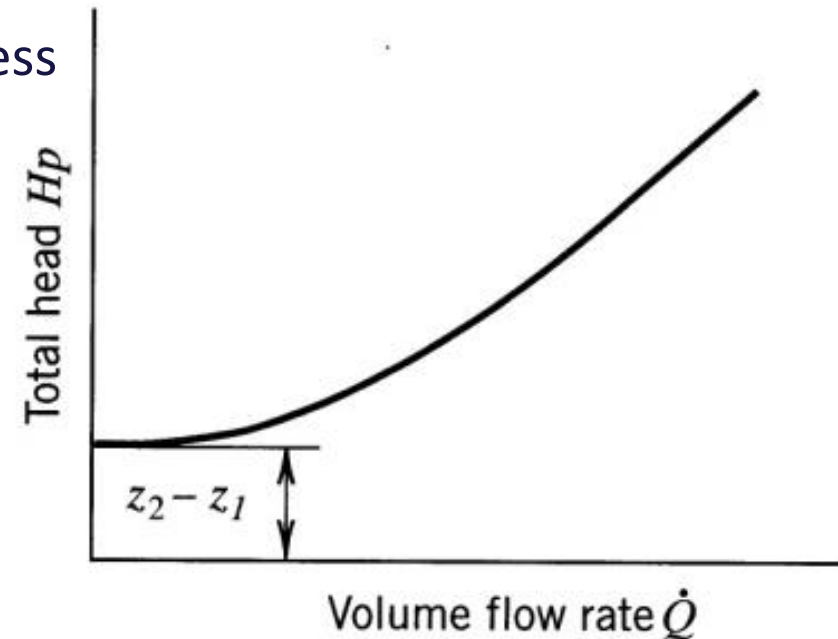

Figure 6-4
- The behavior of a piping system may be conveniently represented by plotting **total head versus volume flow rate** as shown in Figure 6-4.